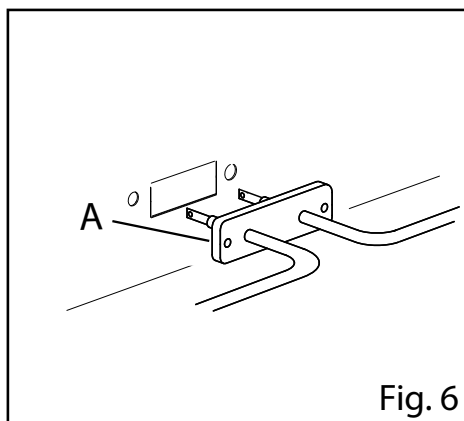

Fig. 6
- Loosen the retaining screws (e.g. Fig. 6/A) and disconnect the electrical connections